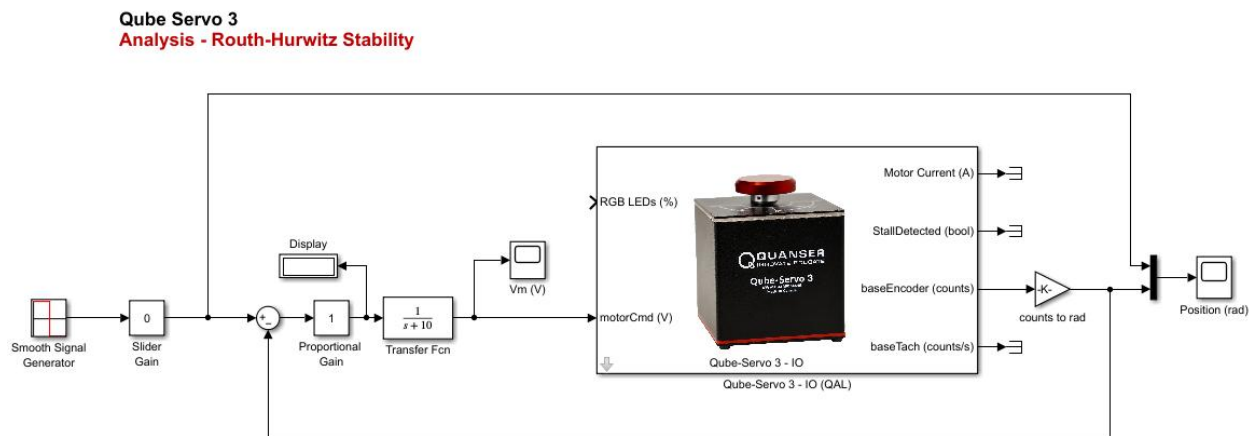

Figure 1: Simulink model used to test stability of Qube-Servo 3
Using the gains found to convert encoder counts into rads from the instrumentation labs update the qs3\\_routh\\_hurwitz.slx file to match Figure 1. Leave the disconnected gain block.
Build the Simulink model shown in Figure 1, if it has not already been provided, use a previous model as a start.
Now that the theoretical stability of the system has been calculated, these calculations can be validated on hardware. Create or open the Simulink model from Figure 1.
1. Open the `qs3_routh_hurwitz` model shown in Figure 1.